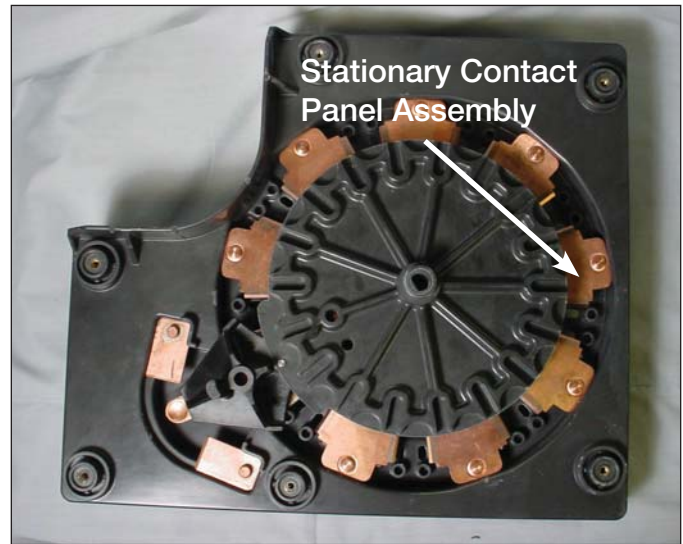

Figure 30.
1. Lay the contact panel assembly section flat on a table surface. See Figure 30.